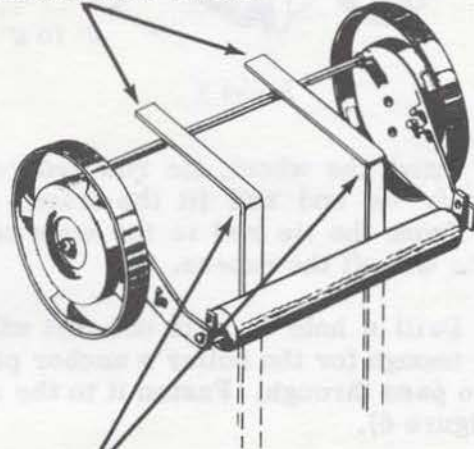

Figure 3
1. Measure the horizontal distance from the tie rod to a point exactly above the rear roller. Add enough extra length so the strap iron support can be wrapped around the tie rod (Figure 3). Measure off this distance and bend two pieces of strap